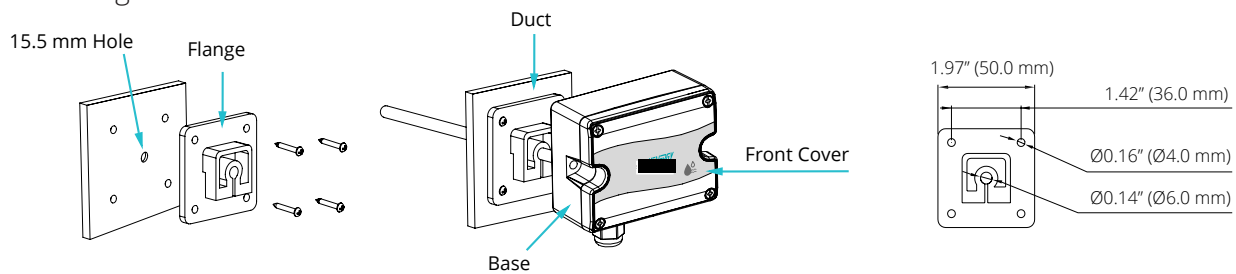

Figure 7 Duct Mount with Flange
4. Adjust the AcuHUM DM probe to required depth, and use the remaining screw to tighten the flange clamp to secure probe. The duct connection should be air-tight after installation. Refer to Figure 7 for details.